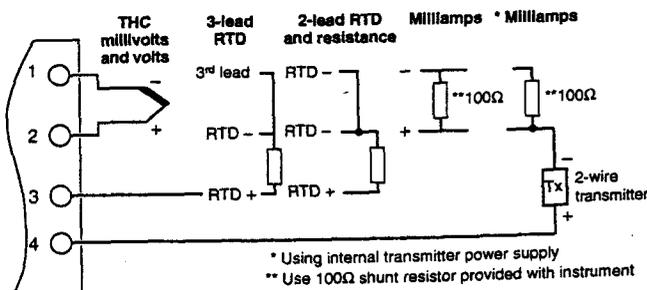

Fig. 5.5 Electrical Connections
5.3 Electrical Connections - Fig. 5.5 (overleaf)